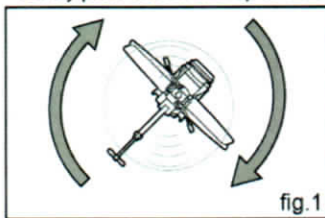
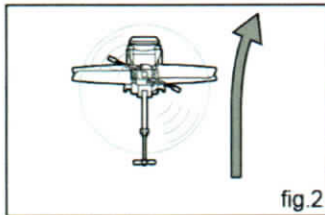
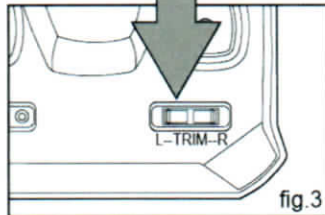

fig.1
fig.2
fig.3
- When the helicopter spirals (fig. 1) or keeps turning clockwise (fig. 2), press the left side of the yaw trim button ("L") repeatedly until the helicopter flies straight (fig. 3).